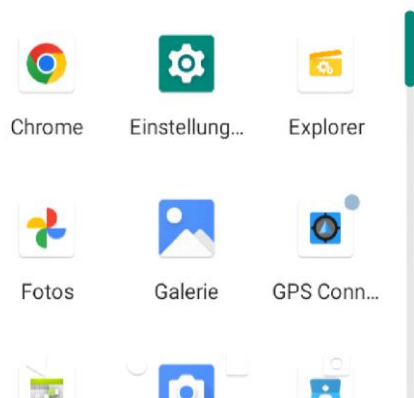

Fig.2
1. Open settings in the APP overview (Fig.2). To do this, swipe up from the bottom of the home screen and select Settings.